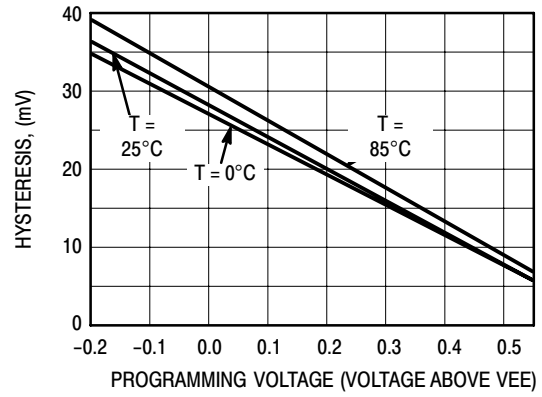

Figure 4. Hysteresis Programming Voltage
9. Refer to Figure 4 and note that the input is at 850 mV ECL levels with the input threshold range between the 20% and 80% points. The delay is measured from the crosspoint of the input signal and the threshold value to the crosspoint of the Q and \bar{Q} output signals.